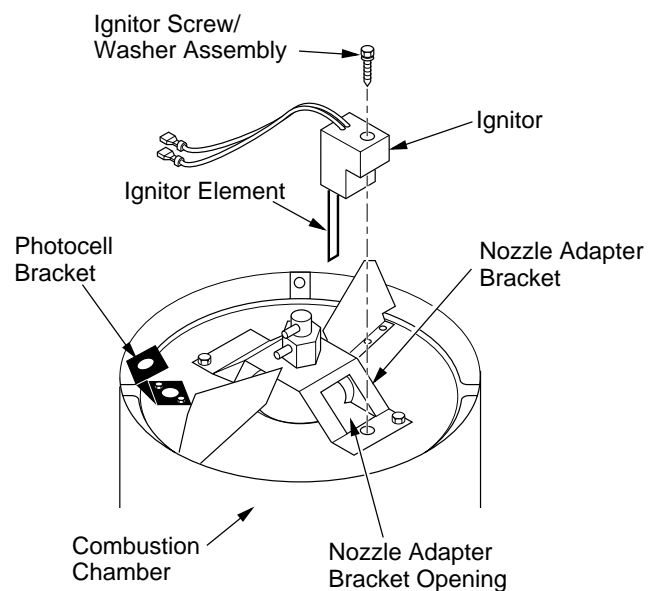

Figure 20 - Ignitor Replacement
6. Remove combustion chamber. Stand combustion chamber on end with nozzle adapter bracket on top (see Figure 20).
9. Carefully guide ignitor into opening in nozzle adapter bracket. Do not strike ignitor element. Attach ignitor to nozzle adapter bracket with screw using a 1/4" nut driver (see Figure 20). Torque .90 to 1.69 N-m (8 to 15 in-lbs) Do not over torque.